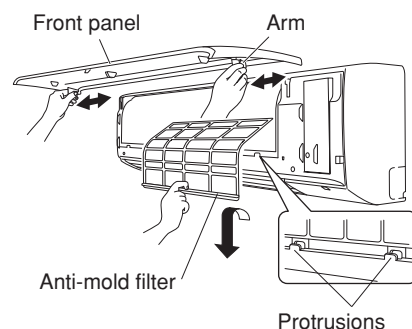

Fig. 16
- (1) Open the front panel until it is nearly horizontal, grasp the sections near the front panel arms on both sides, and then remove the panel by pushing the arms towards the outside while pulling the panel towards you.
- If the front panel is difficult to remove, grasp both ends of it and lift it up slightly. Move it to the left and disengage the left arm, then move it to the right and disengage the right arm. (Fig. 16)
- (2) Lift the anti-mold filter up slightly to disengage it from the protrusions on the unit, and then pull downward to remove the filter from the unit. (Fig. 16)